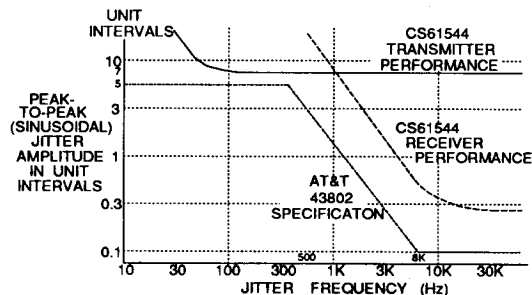

Figure 7 - Typical Input Jitter Tolerance of Transmitter and Receiver
- For CERDIP ICs, assumes IC is operated within -70° to $+70^{\circ}$ C of reset temperature. For Plastic ICs, assumes is operated within -25° to $+40^{\circ}$ C of reset temperature (meets Bellcore central office specification: TR-EOP-000063 NEBS). For all packages, assumes IC is operated within 0.1 V of reset V_+ . Input data pattern is quasi-random: (2 \uparrow 20) - 1 with 1-in-15. Between 500 Hz and 8 kHz the jitter tolerance will be better than the AT&T 43802 line shown in Figure 7.